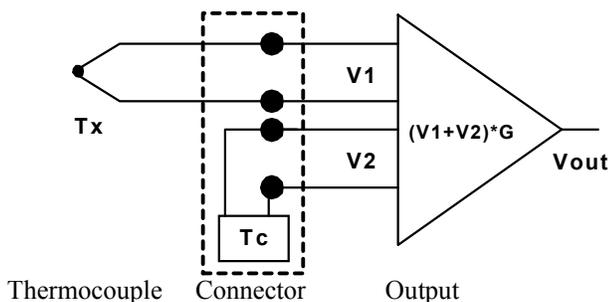

Figure 1
Modern signal conditioning modules have electronically resolved this situation and, in addition, have linearized the thermocouple voltages. These conditioning modules provide the end-user with a linear output signal, scaled to either volts per °C (°F) or amps per °C (°F). The concept of electronically referencing thermocouple measurements to zero °C is shown in Figure 1. This technique is known as “cold junction compensation” or CJC.
In Figure 1, the voltage V1 is Seebeck’s thermocouple voltage generated by the difference between the unknown temperature (Tx) and the connector temperature (Tc), as shown in Equation 4. The connector temperature (Tc) is measured with a non-thermocouple sensor (diode, RTD, etc.) and the corresponding sensor voltage (V2) is electronically scaled to represent the same Seebeck thermocouple voltage (referenced to 0°C) that a thermocouple would read if used to measure Tc as indicated in Eqn. 5. This “V2 scaling” is matched to the same type thermocouple as used to measure Tx.
Equation 6 shows the thermocouple voltage (V1) has two parts, both of which are referenced to Tice. The voltage term, $S^*(Tx - Tice)$, is the standard look-up table value needed for determining the unknown temperature (Tx). The term, $S^*(Tc - Tice)$, is the voltage obtained if connector temperature (Tc) were measured with the same type thermocouple as used to measure Tx. Recall that V2 has been electronically scaled so that V2 equals this voltage, $V2 = S^*(Tc - Tice)$. In Figure 1 if $G = 1$, then;
To achieve linearity, the gain (G) in Figure 1 and Equation 7 is internally programmed to selectively scale the voltage function $S^*(T_x - T_{ice})$ to be a linear function of temperature with the units of volts per °C (°F) or milliamps per °C (°F). For more details, examine AN505 “Hardware Linearization of Non-linear Signals” on Dataforth’s website application note section, Reference 9. While on this web site, take a few moments to examine all of Dataforth’s complete line of thermocouple signal conditioning modules.